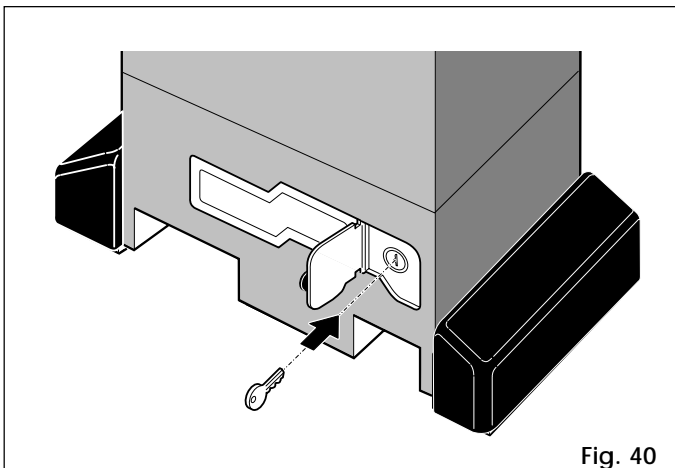

Fig. 40
- 1) Open the lock cover and insert the key supplied in the lock (Fig.40).